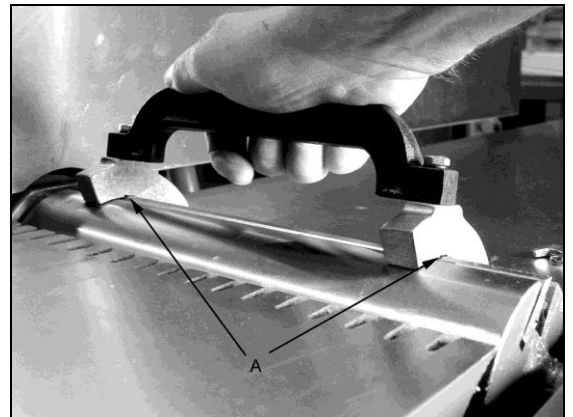

Figure 9
7. Next use the supplied knife gauge as shown to carefully push down on the knife until it is position as shown in Figure 9. Make sure the knife makes contact within the indent as shown by 'A' in Figure 9.